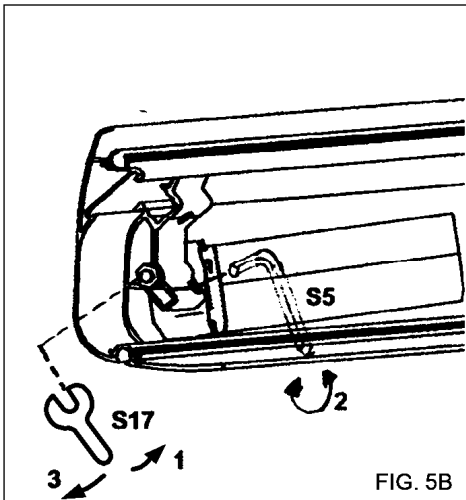

FIG. 5B
- Tighten the screws as shown on fig. 5B.